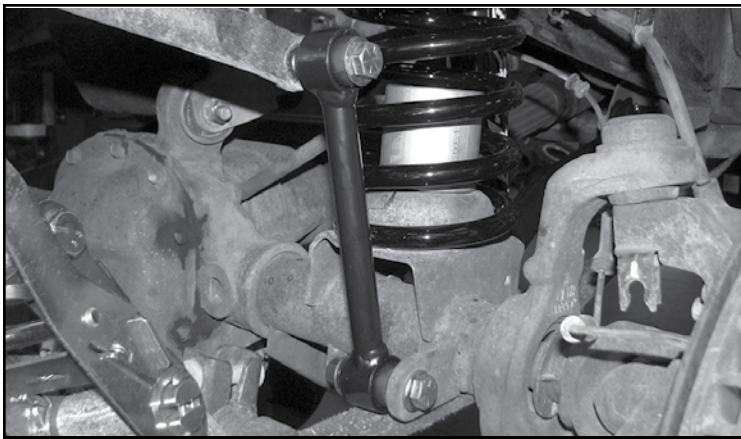

FIGURE 6 - STEP 7
7. Install the bushings and sleeve into the new Fabtech sway bar endlinks. Install using the supplied 1/2-20 X 2-3/4" bolt and hardware for the upper mount and the factory hardware for the lower mount. Torque to 127 ft-lbs **SEE FIGURE 6**